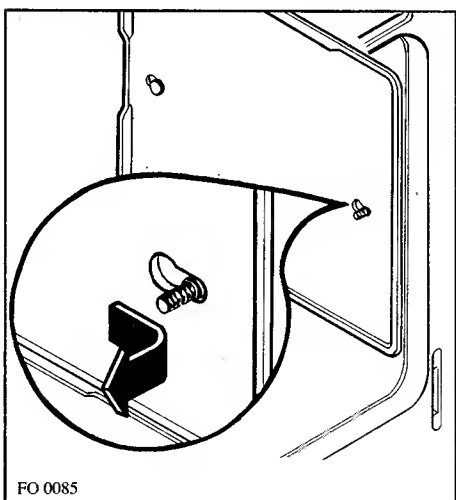

Fig. 8
2. Slide the side panels toward yourself to release them from their retaining pins, then lift away from the oven wall (Fig. 8).